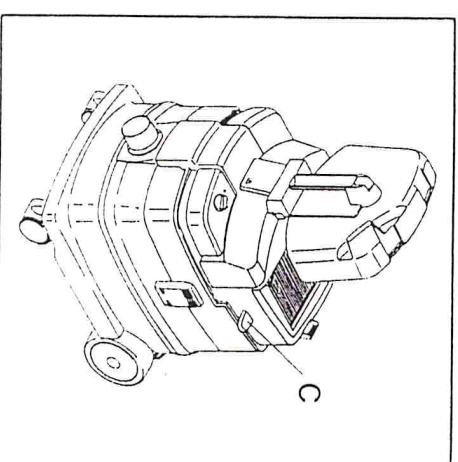

Fig. 7
1. Turn the Vacuum Cleaner switch to the "O" (OFF) position. Grasp handle (C) Fig. 7, and pull out (approximately one and one-half inches), and release. Repeat several times. This action "shakes" the flat filter to remove loose dirt.